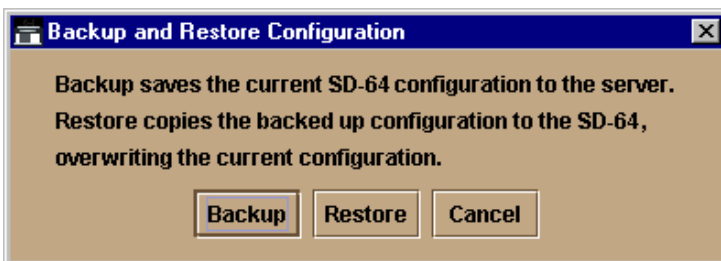

Figure 3-33: Backup and Restore Configuration Dialog Box
5. At the navigation control panel, select Backup & Restore Configuration from the Maintenance menu. The Backup and Restore Configuration dialog box (Figure 3-33) displays.